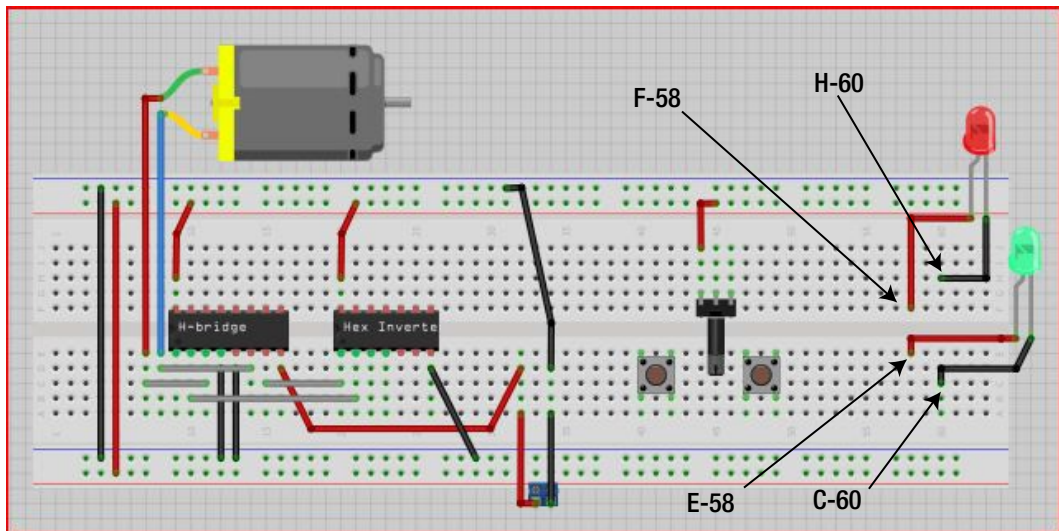

Figure 15-13. Attach LEDs to the solderless breadboard
19. Attach the red and green LEDs to the breadboard, making sure you have enough room to attach other components. Insert the longer leg (the anode) of the red LED into F-58 and the shorter leg (the cathode) into H-60. Insert the longer leg of the green LED into E-58 and the shorter leg into C-60. Figure 15-13 illustrates this process.